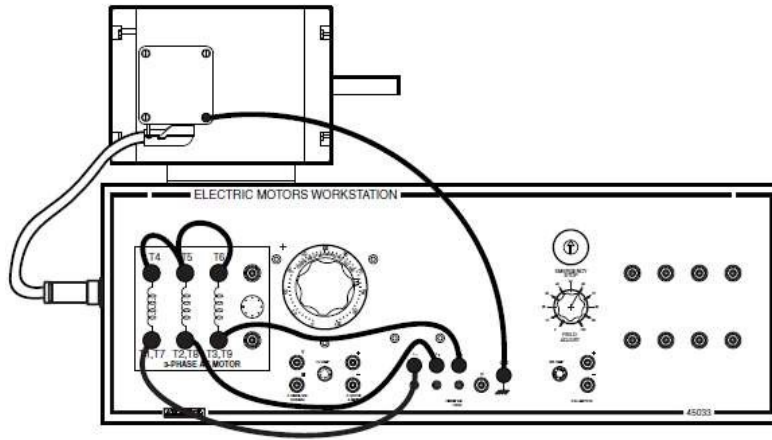

Figure 3: The wiring connections for a Split-phase motor
- Verify the connections on the Machines Training Unit by reviewing the illustration in Figure 3, which shows the connections between the different banana jacks on the unit.